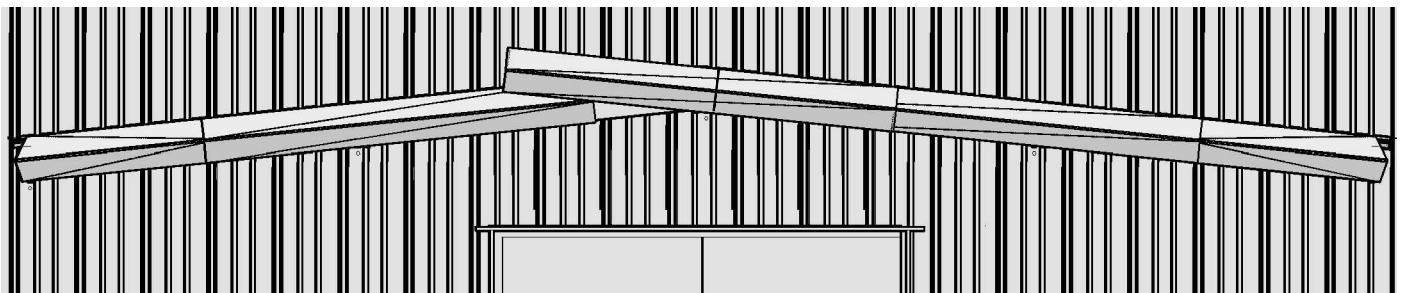

FIGURE 18
- On the center mark, cut the Rake Trim from the bottom to the top horizontal leg. Slide the right side behind the left and press the Rake Trim into place upon the Tape Sealant on the Roof Panel (**Figure 18**). This cut does not have to be perfect because it will be covered with the Peak Plate (T-034-00). Attach the right side of the Rake Trim with Stitch Screws 6" on center. Use Pop Rivets for Rake Trim end laps.
8. Cut a piece from the Eave Filler (T-035-00) to fill in the gaps shown in Figure 18. Attach with Pop Rivets or Stitch Screws from below.
9. Attach Peak Plate (T-034-00) over the cut at the center of the Rake Trim using (4) Pop Rivets.